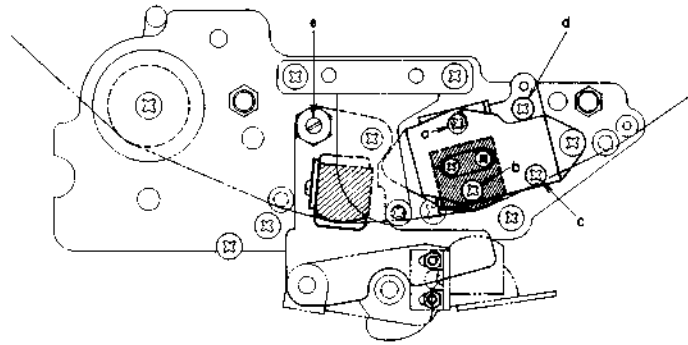

Fig. 1
1. HEAD HEIGHT ADJUSTMENT (See Figs. 1 and 2)
A. Playback/Rec Head (See Fig. 1, 2)